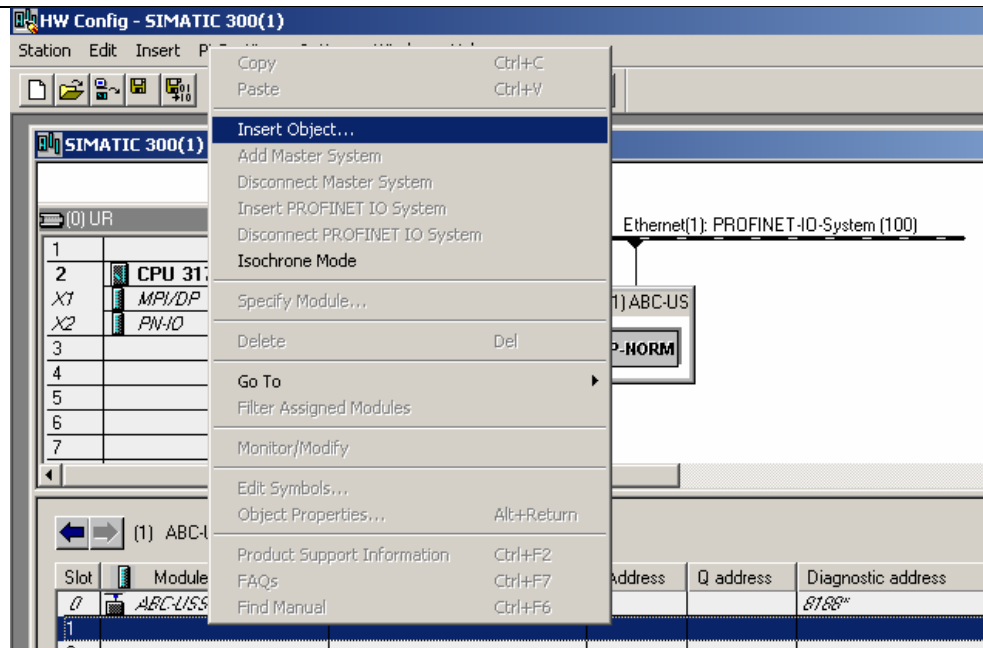

Figure 11
7. Next add an Object and the correct PKW and PZD and edit the I/O addresses if necessary, as shown in figure 11 and 12. The choosen values for PKW and PZD must correspond to the parameter-settings for PKW and PZD in the addressed USS-slaves.